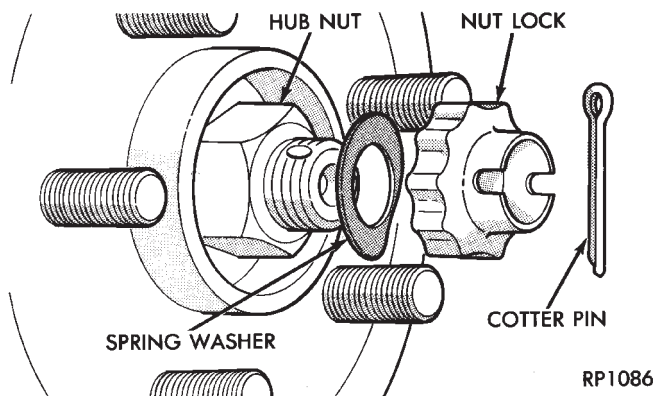

Fig. 2 Remove Cotter Pin, Hub Nut Lock, & Spring Washer
(1) Remove the cotter pin, hub nut lock and spring washer from the front axle (Fig. 2).